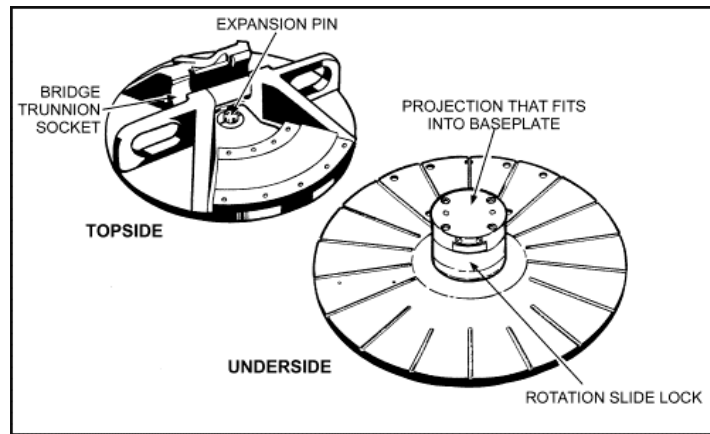

Figure 6-6. Rotator assembly.
(1) The socket end is designed to receive the tube cap. It has a closed slot in the left side of the socket and an open slot in the right side. These slots receive the tube cap trunnions. Two bridge trunnions behind the socket fit into the bridge trunnion socket on the rotator.
(2) The spade at the front of the bridge assembly facilitates the digging action of the bridge assembly during firing. Two steel trunnion sockets to the rear of the spade hold the standard assembly.
c. **Rotator Assembly.** The rotator assembly (Figure 6-6) is about 20 inches (50.8 centimeters) in diameter. The bridge trunnion sockets are on the upper side of the rotator assembly. A projection on the underside fits into a recess in the baseplate assembly and contains the rotator slide lock. The rotator slide lock is actuated by the insertion of the bridge trunnions into their sockets, which depresses the expansion pin and securely locks the rotator and baseplate assemblies together. This projection also forms the pivot around which the rotator assembly rotates on the baseplate assembly.